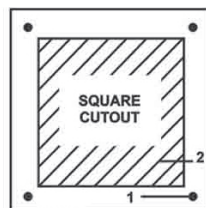

FIG 5
- Cut out and remove the square. (See FIG.5)